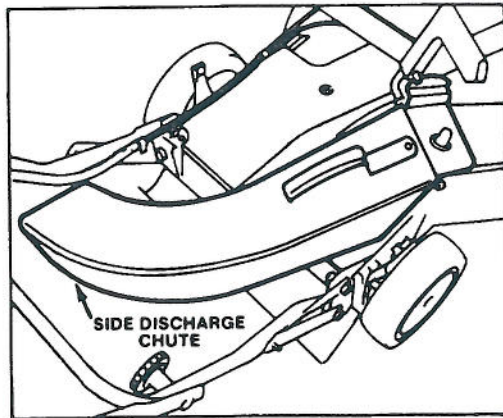

Figure 6
**SIDE DISCHARGE** — Disperse clippings with optional, rear-mounted side discharge chute which installs in seconds. Between the handle lets you trim on both sides (Fig. 6).